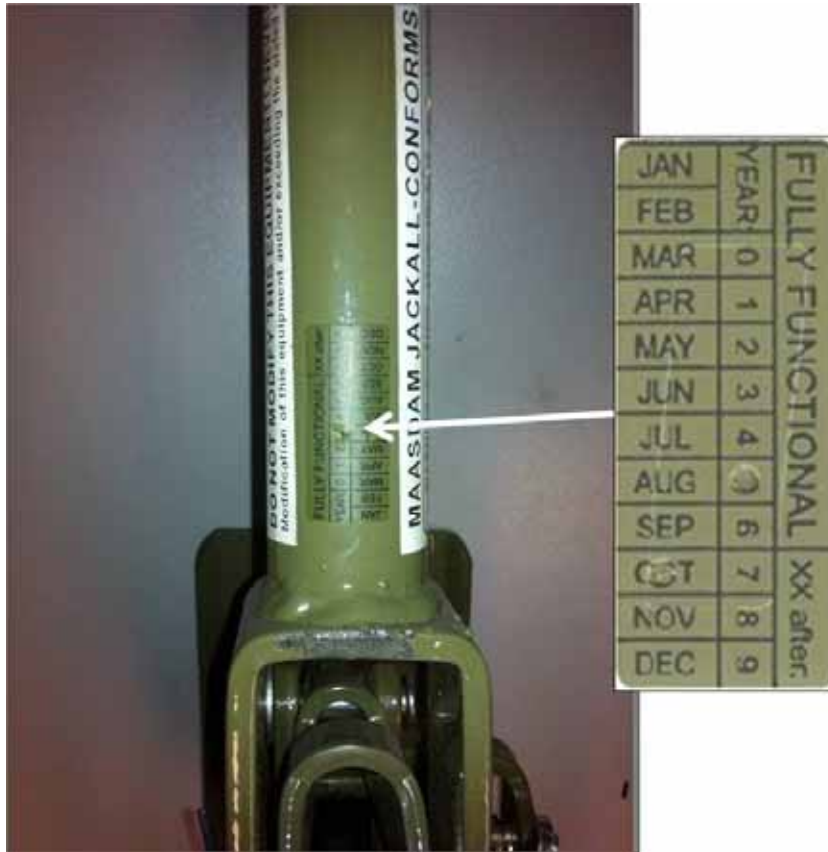

Figure 7 Label Positioning
12. Label Positioning. The Label AD370 is to be positioned centrally between the edges of the lower portion of the Warning Label as shown in Figure 7.
- Ensure the label positioning area, as detailed in Figure 7, of the High Lift Jack handle surface area is clean ensuring oils, grime or adhesive residue from previous labels are removed.